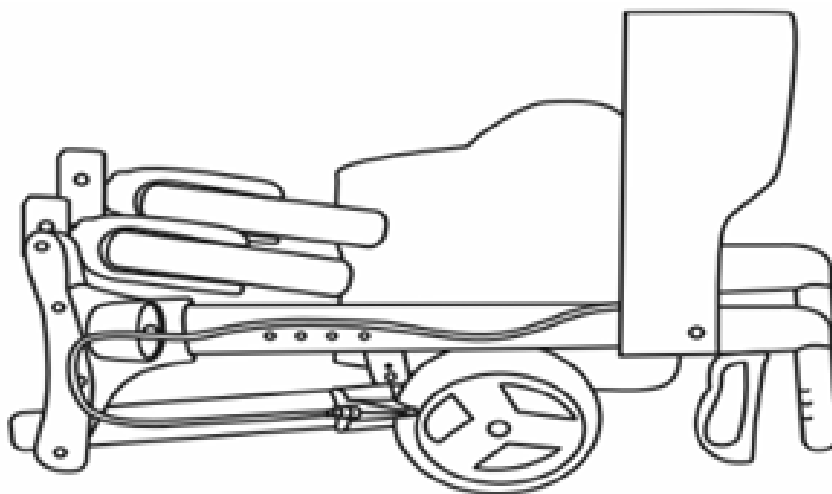

FIGURE 1
STEP 1: When you take the walker out of the box, you will find it completely folded as shown in figure 1.